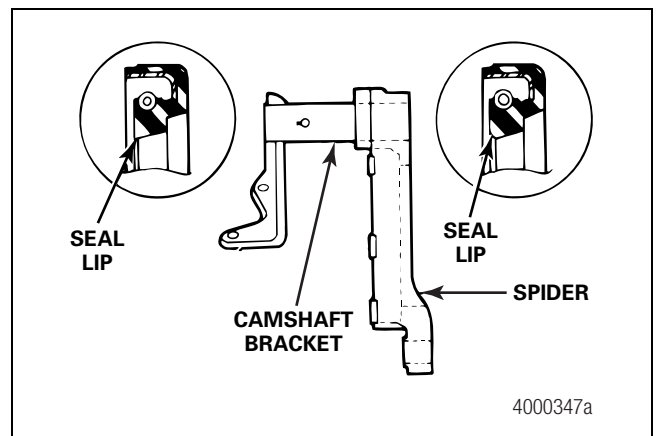

Figure 4.6
- If the brake has a stamped spider:** Install both bushings into the bracket. Install the seals with the seal lips toward the slack adjuster to ensure grease purges at the slack end. Figure 4.6.